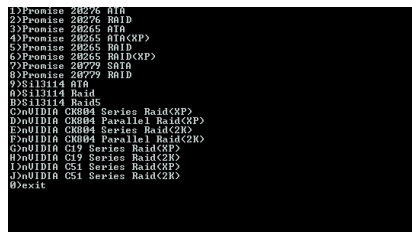

Figure 13
Step 2: When the controller menu (Figure 13) appears, remove the startup disk and insert the blank formatted disk. Select the controller driver by pressing the corresponding letter from the menu. For example, from the menu in Figure 13, press J to select (J) nVIDIA C51 Series Raid (XP) if you wish to install Windows XP. Your system will then automatically zip and transfer this driver file to the floppy disk. Press 0 to exit when finished.
A command prompt window will open similar to that in Figure 13.